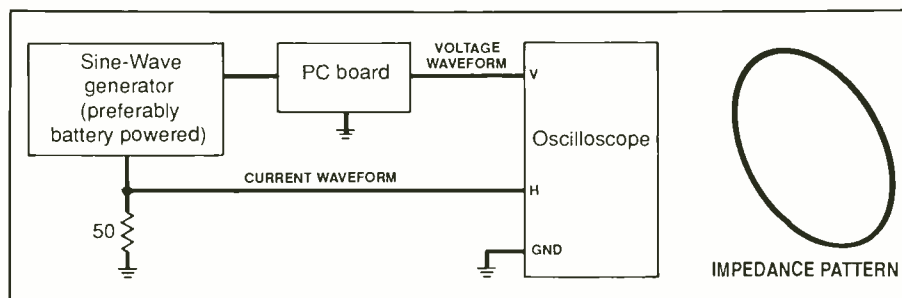
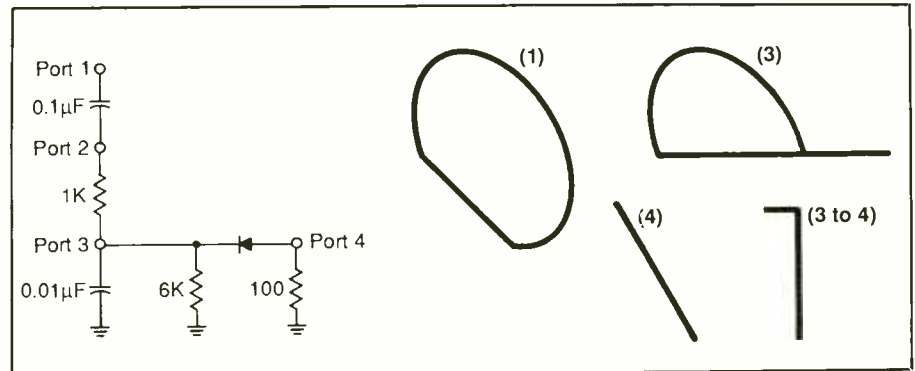

Fig. 4. Test setup for making comparative impedance checks at various frequencies.
Fig. 5. A series-parallel RC network that includes a diode and has two basic types of impedance patterns.
easily made with a test setup such as shown in Fig. 4. This is a general approach, since it is made in "dead" circuitry and is equally informative whether the unit under test is working or inoperative. If the circuit branch under test is linear and has a reactive component, a true ellipse is displayed on the oscilloscope's screen, as shown. However, let us consider a potentially nonlinear example, as exemplified in Fig. 5. This is a three-port series-parallel RC net-
Next, at a higher input test voltage level, the impedance pattern at Port 1 exhibits noticeable flattening, as illustrated in (1) in Fig. 5. Then, if Port 1 is short-circuited to Port 3, a "tennis racquet" impedance pattern like that in (3) is displayed at pertinent frequencies. This distorted pattern results from conduction of the diode connected at Port 3.
An impedance check from Port 4 to ground in Fig. 5 results in a virtually resistive pattern, as shown in (4). Observe now that if a jumper is connected from Port 4 to ground, an impedance check from Port 3 displays an almost ideal diode characteristic, as in (3 to 4). This diode characteris-